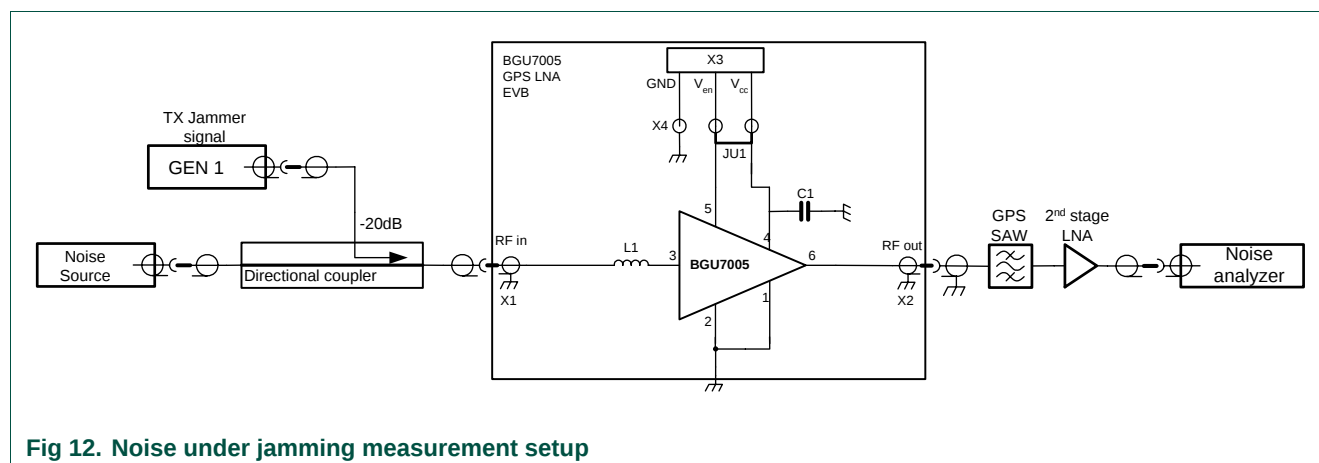

Fig 12. Noise under jamming measurement setup
9. For noise under jamming conditions, the following is needed. A 15dB ENR noise source, a directional coupler, GPS band pass filter, a noise-figure analyzer or a spectrum analyzer with noise option can be used. See Fig 12
Noise figure under jamming conditions is a measure of how the LNA behaves when e.g. a GSM TX interfering signal is at the input of the GPS antenna. To measure this behavior the setup shown in Fig 12 is used.